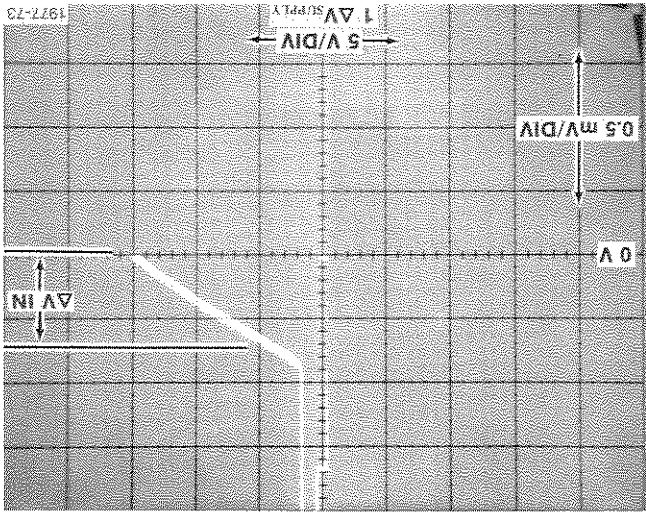

Fig. G-10. ± Supply rejection ratio.
d. Change the 178 FUNCTION switch to ±PSRR and calculate ±PSRR from the resulting display (see Fig. G-10).